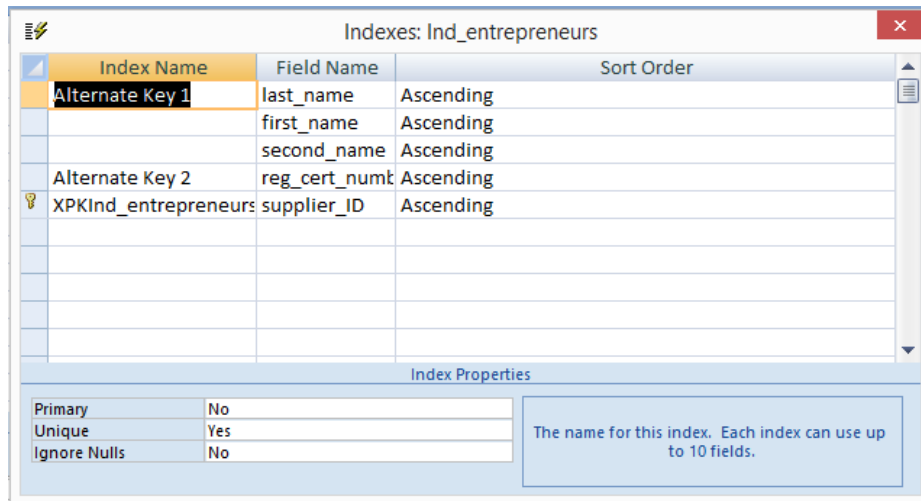

Figure 7
3) Open data scheme and check presence of relationships between database tables (figure 7);